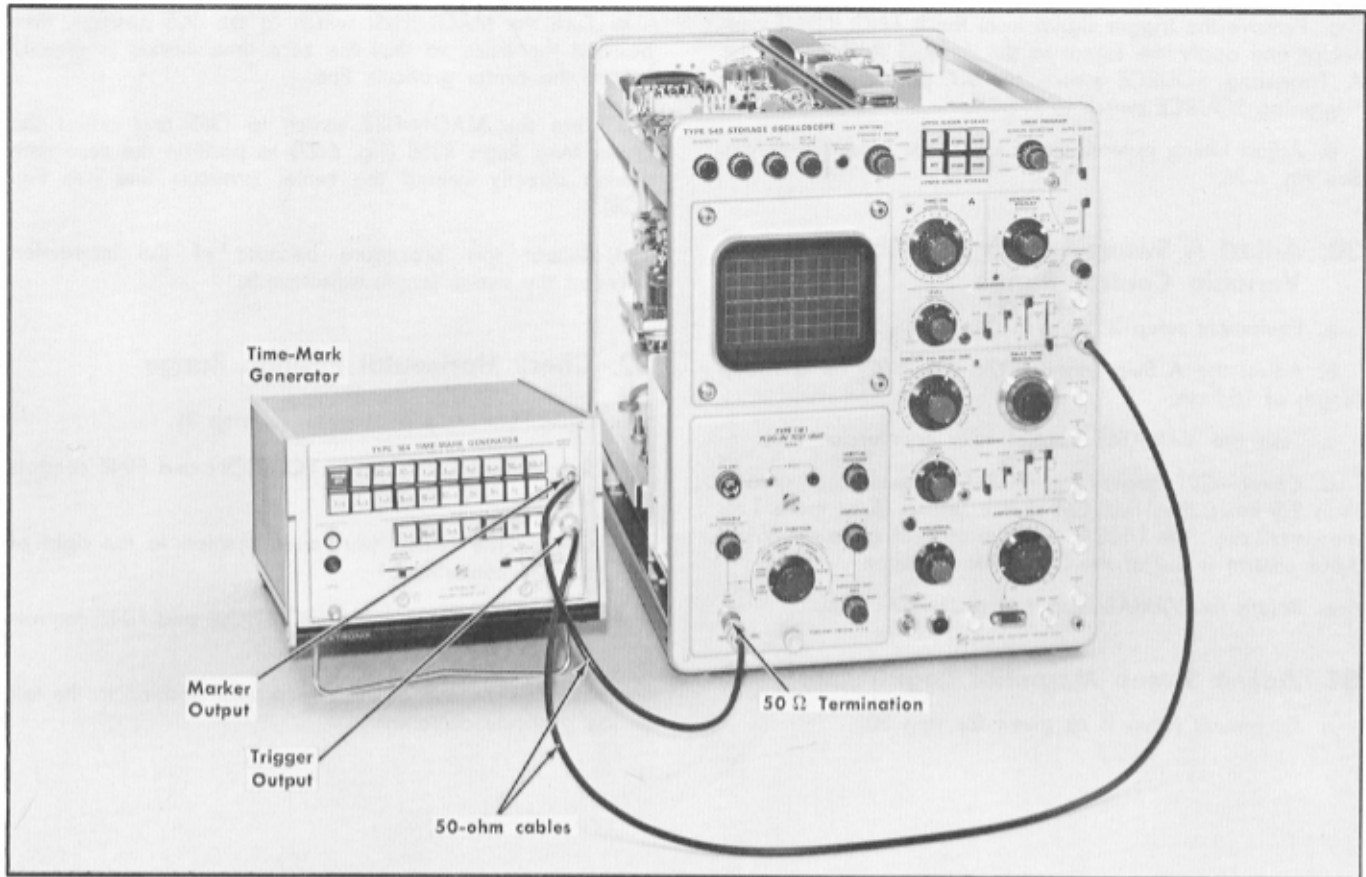

Fig. 6-29. Equipment setup for steps 33 through 38.
- Equipment setup is as shown in Fig. 6-29.